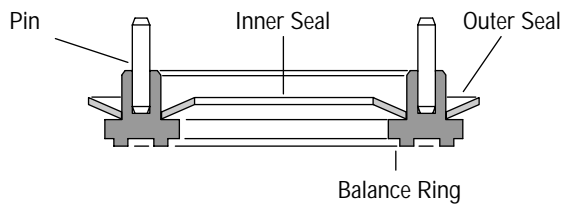

Figure 20
41 Apply petroleum jelly on inner and outer face seals. Install seals on balance ring as shown in Figure 20.
**Important:** Install face seals in the positions shown in Figure 20 or the motor will not operate properly. Do not force or bend these face seals. Any damage to these seals will affect the operation of the motor.